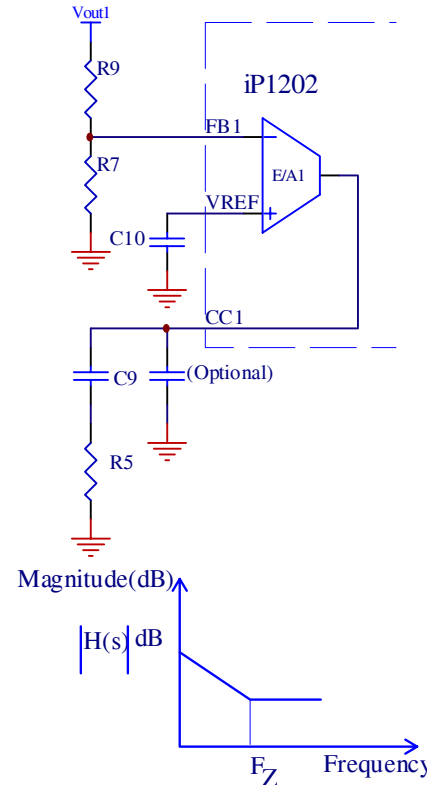

Fig. 18: Typical Type II compensation and its gain plot
From Fig.18 the transfer function $H(s)$ of the error amplifier is given by (11):
Sometimes, a pole f_{p2} is added at half the switching frequency to filter the switching noise. This is done by adding a capacitor C_{opt} in Fig.18 from the output of the error amplifier (CC pin of iP1202) to ground. This pole is given by equation (16):